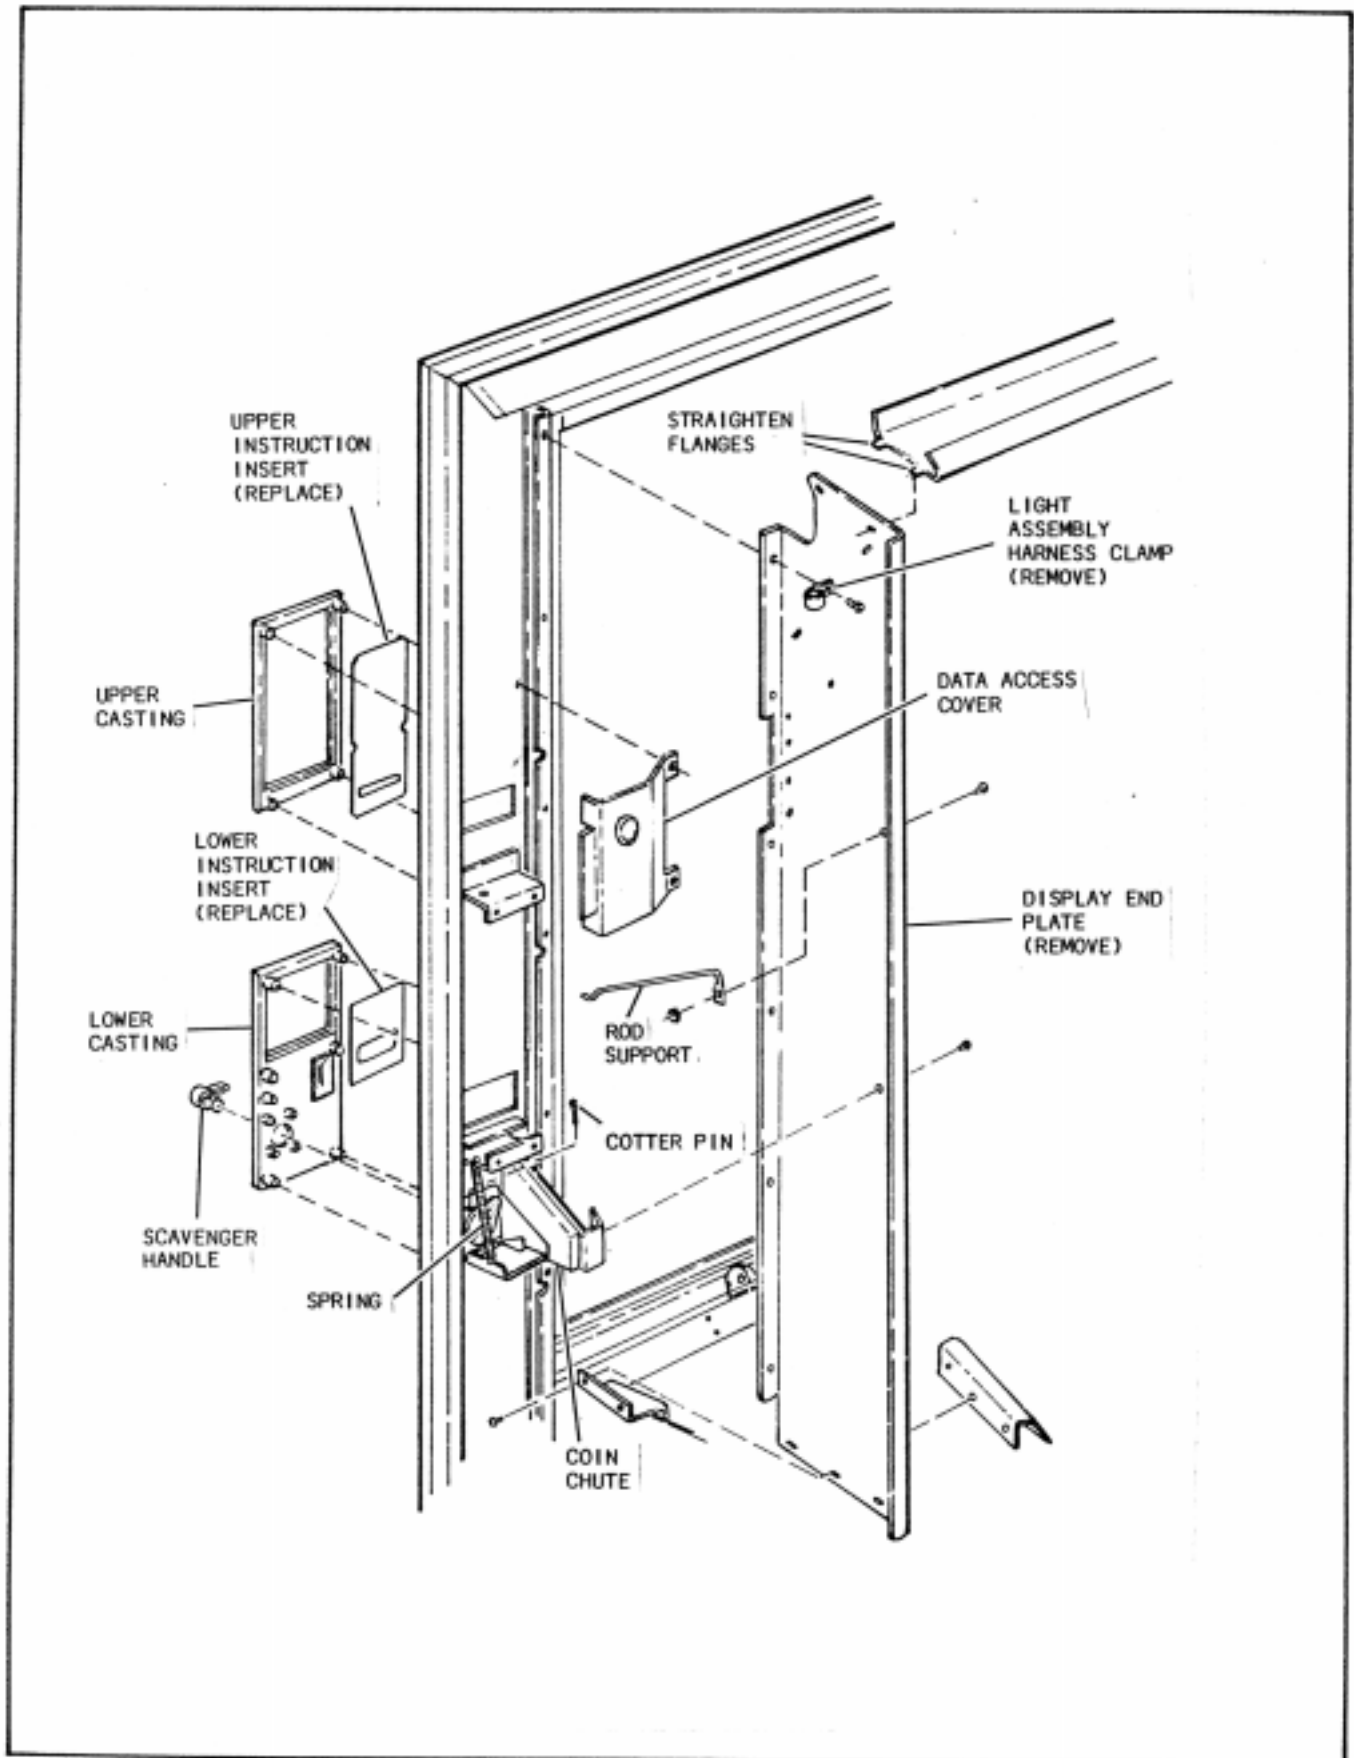

FIGURE 2
- A. Remove data access cover (see Figure 2).